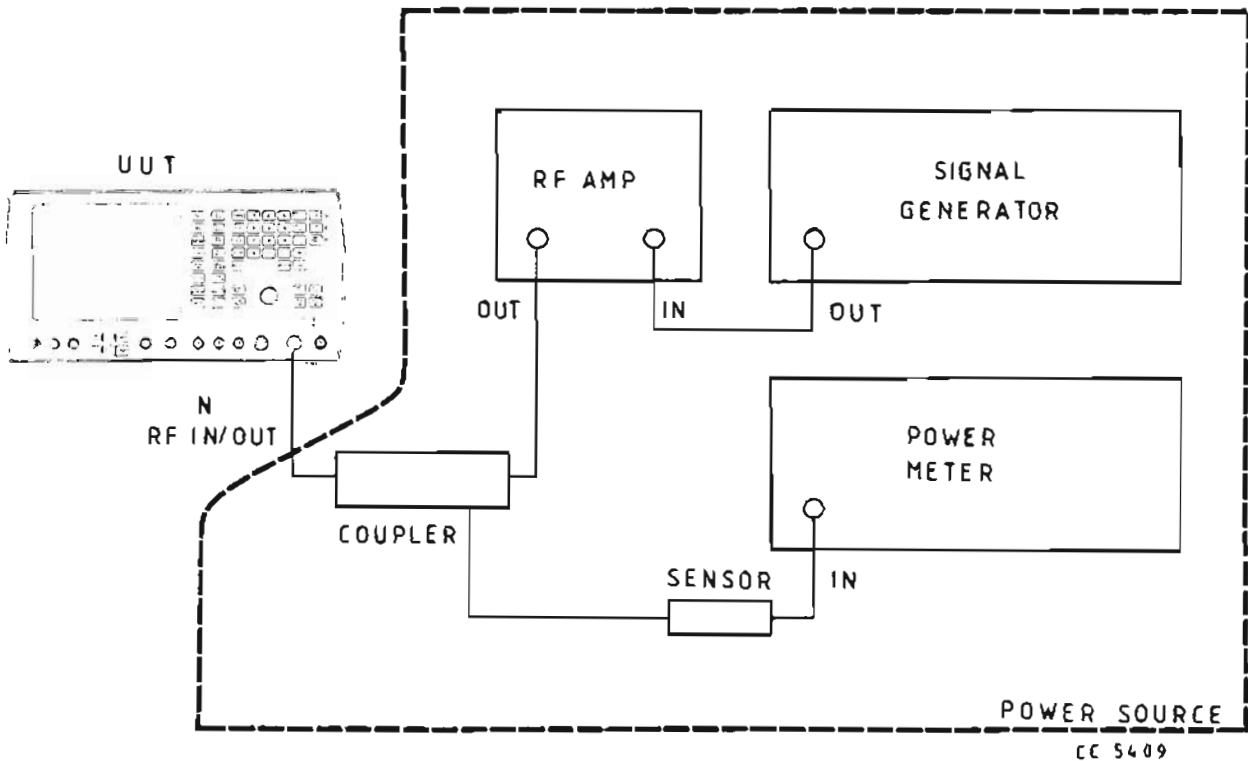

Fig. 18 Test equipment connections for r.f. power meter measurement accuracy performance checks
- (1) Connect the equipment as shown in Fig. 18, using the high frequency coupler. But note that the power source must be calibrated at the frequencies to be checked.
- (2) Set the u.u.t. to TX, N-type input socket.
- (3) Set the power source to give an output of 2 W at 100 MHz.
- (4) Check that the u.u.t. indicates 2 W $\pm 10\%$ ± 1 count.
- (5) Set the power source to give 220 mW.
- (6) Check that the u.u.t. indicates 220 mW $\pm 10\%$ ± 1 count.
- (7) Repeat the above for random frequencies between 100 and 500 MHz.
- (8) Repeat for random frequencies between 500 and 960 MHz and check that the u.u.t. indicates the power sent $\pm 15\% \pm 1$ count.
- (9) Repeat for random frequencies between 960 and 1000 MHz and check that the u.u.t. indicates the power sent $\pm 20\% \pm 1$ count.
- (10) Replace the high frequency directional coupler (HP 778D) with the low frequency coupler.
- (11) Repeat the above checks for random frequencies between 1.5 and 100 MHz and check that the u.u.t. indicates the power sent $\pm 10\% \pm 1$ count.